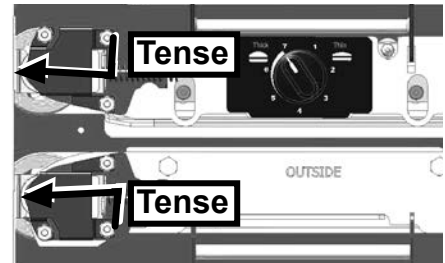

Figure 5. Conveyor rollers under tension
4. Restore tension on the bottom belt by pushing UP and OUT (See figure 5).
5. Restore the tension on the top belt by pushing DOWN and OUT (See figure 5).